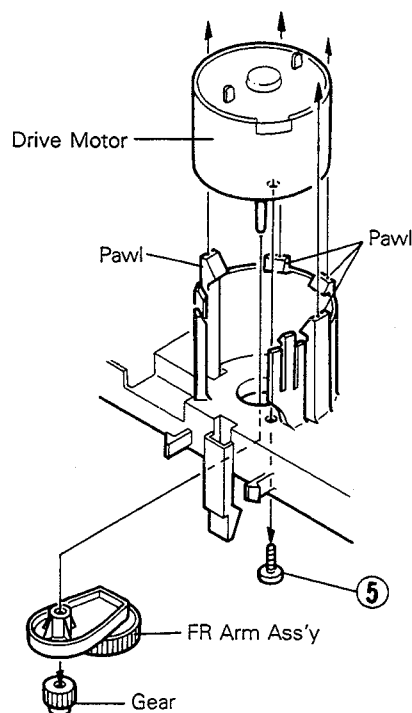

Fig. 7-24
■ **Drive motor** (Fig. 7-21, Fig. 7-24)
2. Remove a screw (5) retaining the drive motor.